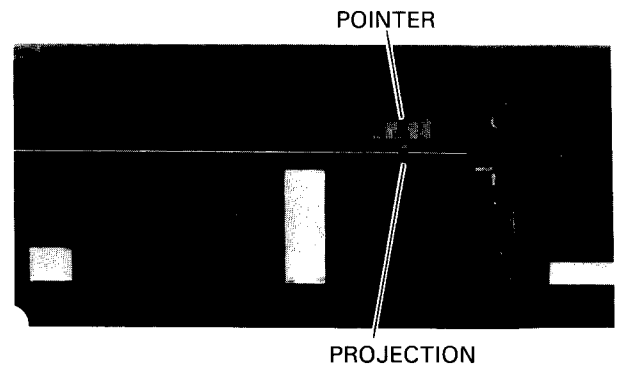

Fig. 16
2. Set the pointer assembled on the cabinet to the projection on the cabinet as shown in Fig. 16.